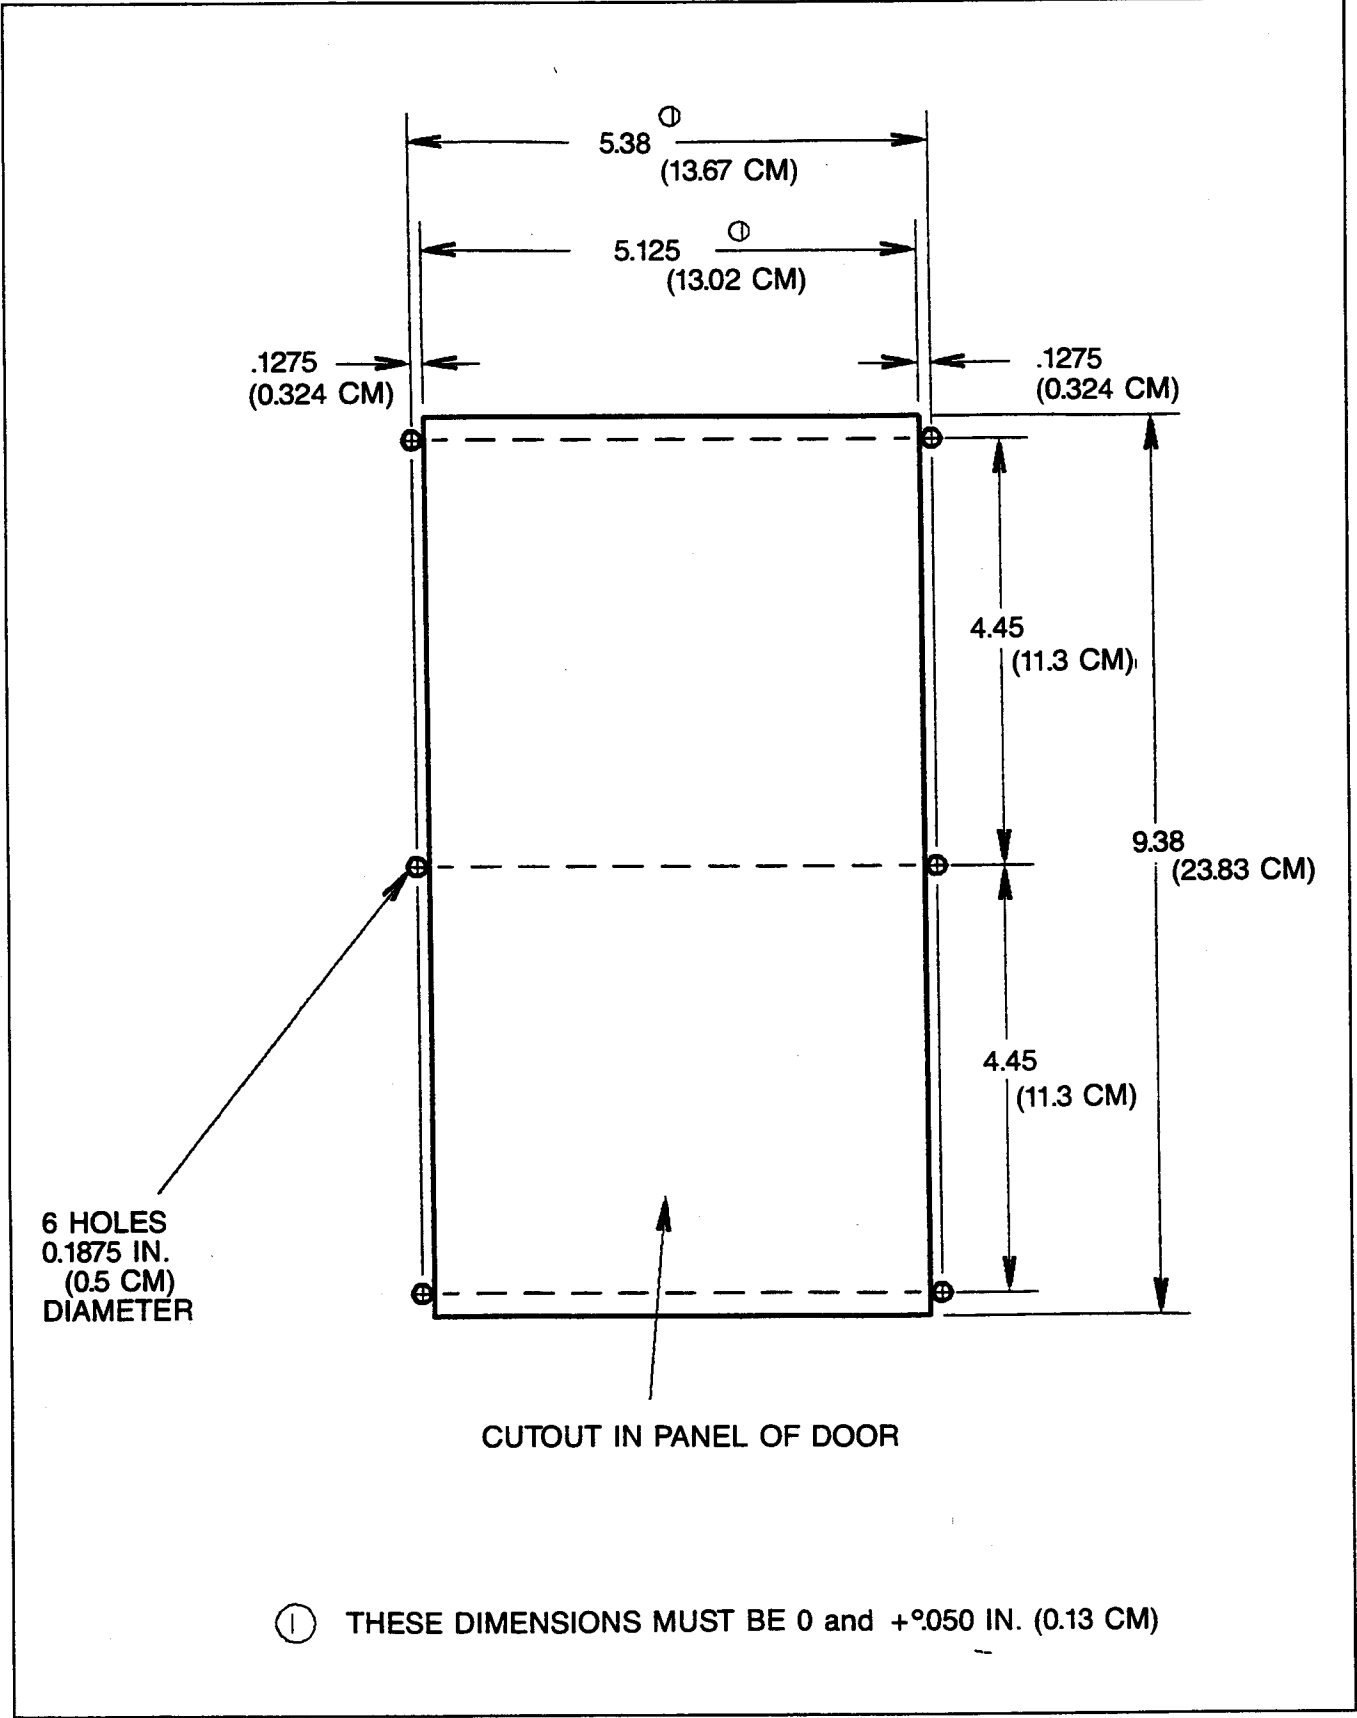
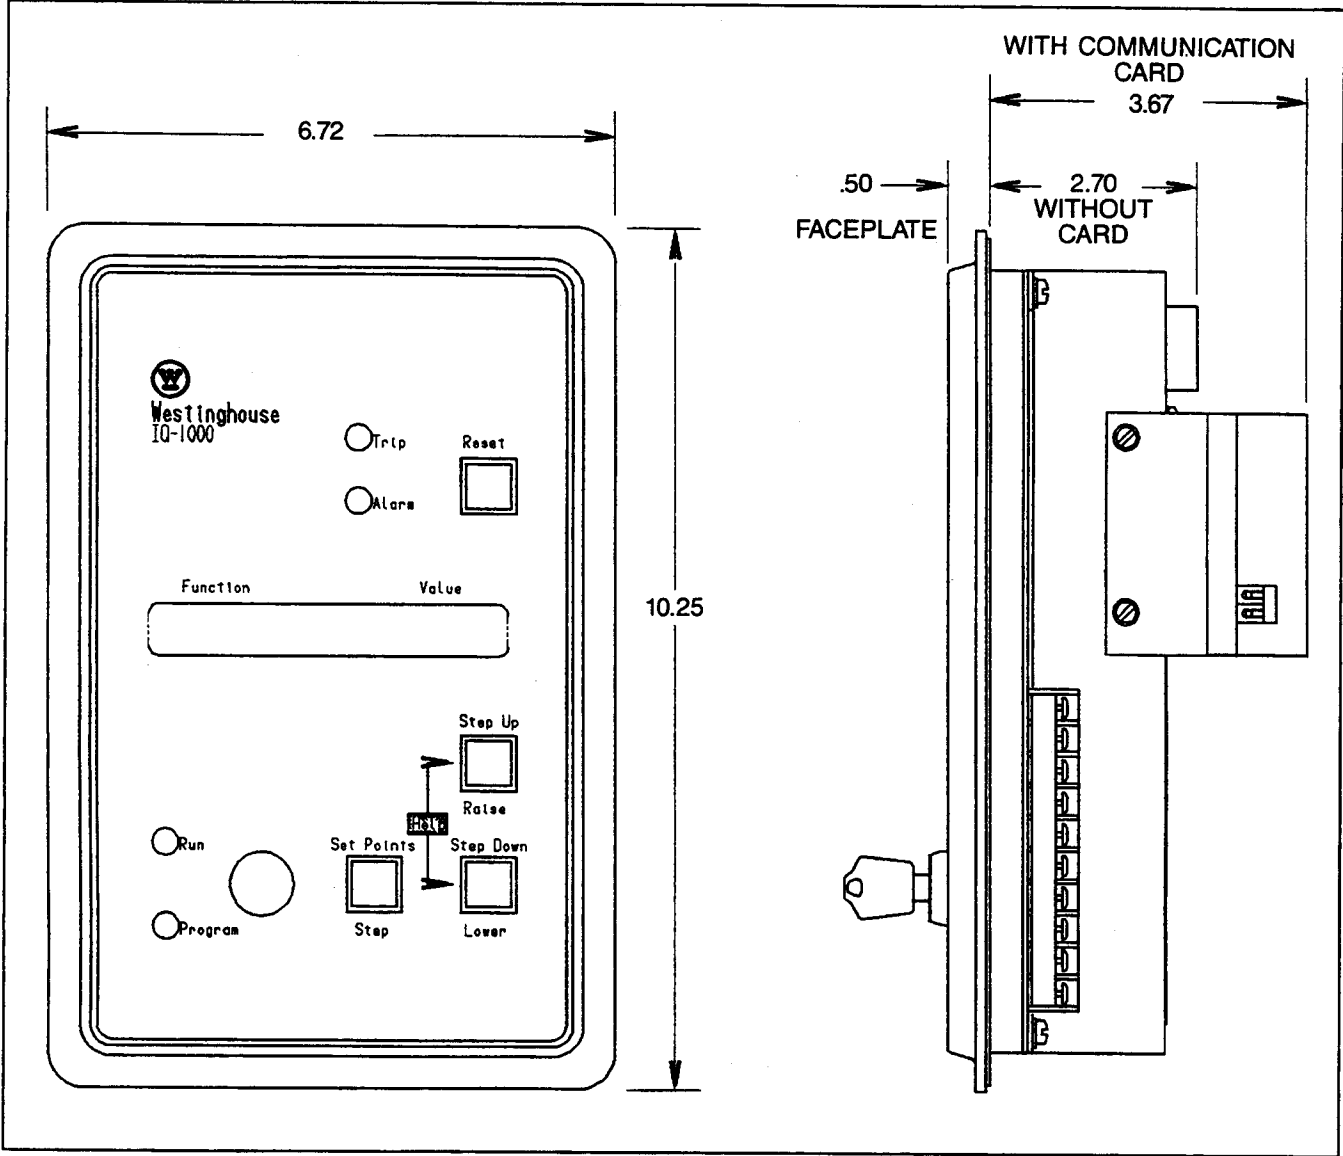

Figure 5.1 — IQ-1000 Chassis Cutout Dimensions
Figure 5.2 — IQ-1000 Chassis Mounting Clearances
5.1.1 IQ-1000 — The IQ-1000 is a self-contained unit which is intended to be mounted through a cutout in an enclosure door. It is necessary to prepare a cutout in which it will be placed. The dimensions for this cutout, along with the location of 6 required mounting holes, are shown in Figure 5.1. Before actually cutting the metal panel, be sure that the required 3-dimensional clearances for the IQ-1000 chassis allow mounting in the desired location. (Clearances are shown in Figure 5.2.)